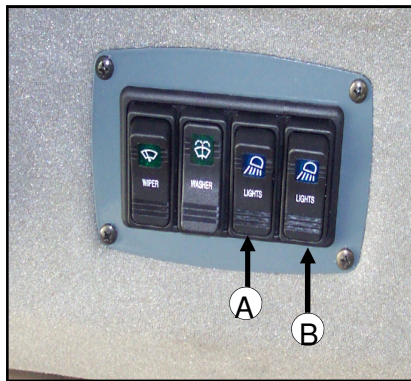

FIG. 27-1
**FIELD LIGHTS AND WORK LIGHTS**– The field lights (fig. 27-2), located on the front of the cab with the headlights, are activated by pushing the switch located on the upper right cab headliner (fig. 27-1, item A). Use these lights when operating in the field after dark. Turn them off before entering a public roadway.
The work lights (fig. 27-3), located on each boom cradle, one facing forward and one facing backward, are activated by pressing the other switch located on the right upper cab headliner (fig. 27-1, item B). These lights can also be used when operating in the field after dark. Turn them off before entering a public roadway.